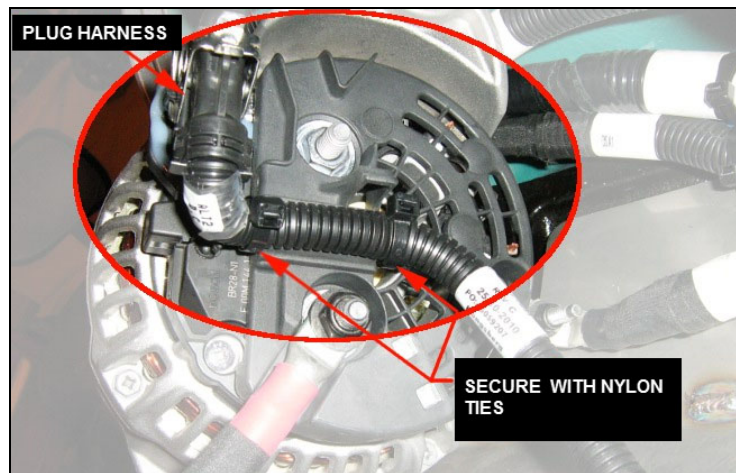

FIGURE 27
18. Plug lower alternator harness onto lower alternator connector and secure using two nylon cable ties #504637 (FIGURE 27).